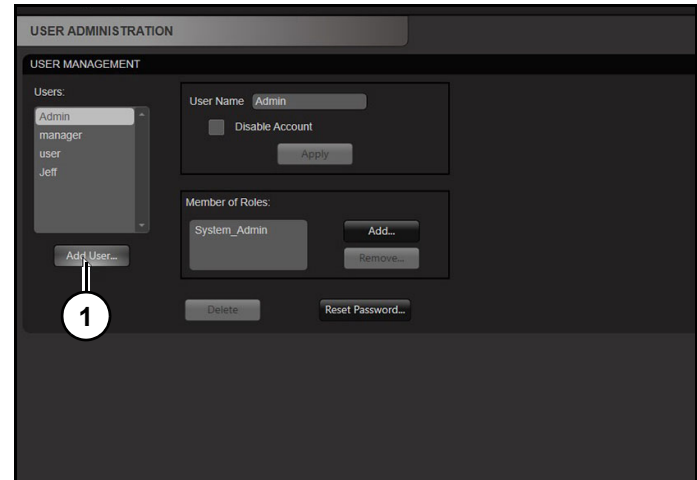

Figure 52
1. Click "Add User" (1) (Figure 52).